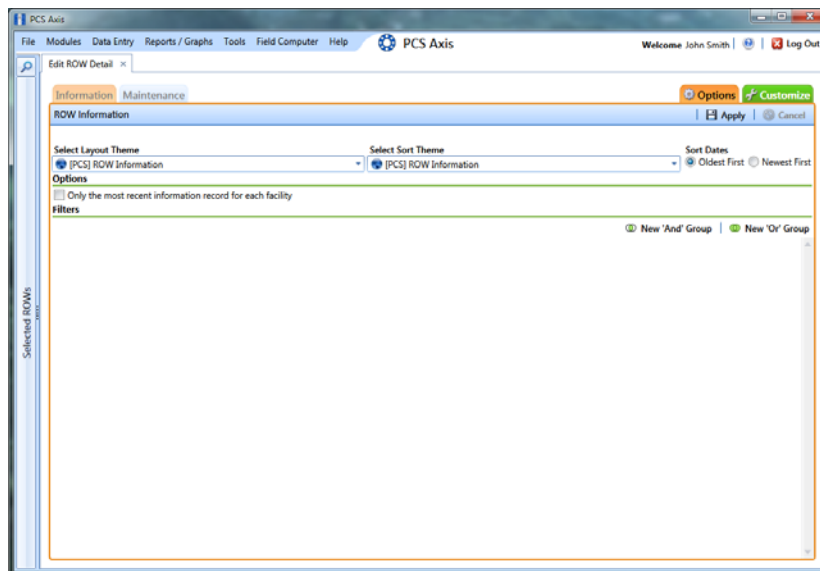

Figure 3-34. Options/Information Grid
- 2 Click the **Information** tab **Information**, then the **Options** tab **Options** to open the *Options* page (Figure 3-34).